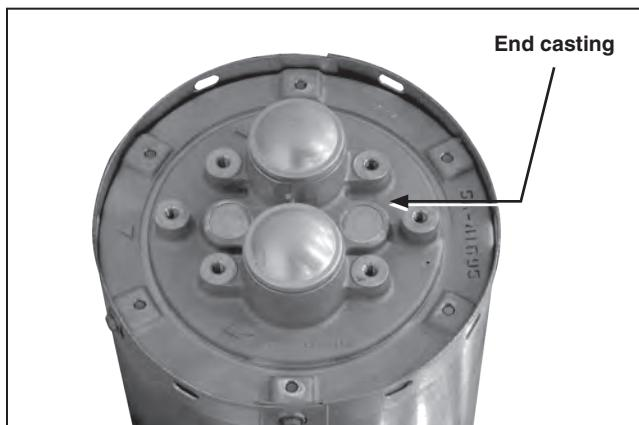

Figure 19. Wire-brushing the surface of the end casting and preparing with aluminum-connector compound.
STEP 6. Thoroughly wire-brush the indicator end-casting where the upper terminal pad is to be attached as well as the mating surface on the upper terminal pad, and immediately apply a liberal coating of Penetrox A or other suitable aluminum-connector compound. See Figure 19.